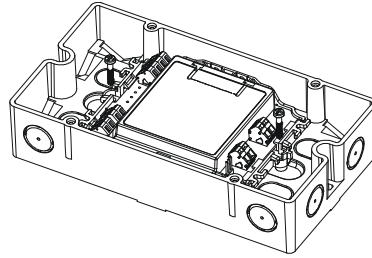

Fig. 3
- Installation outside a switching cabinet or a control unit: use FDCH221 housing (Fig. 3).